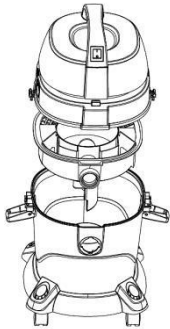

Fig.14
Step 1: To empty the dirty water from your vacuum cleaner, release the latches and remove the main body and filtration assembly (Fig. 14).